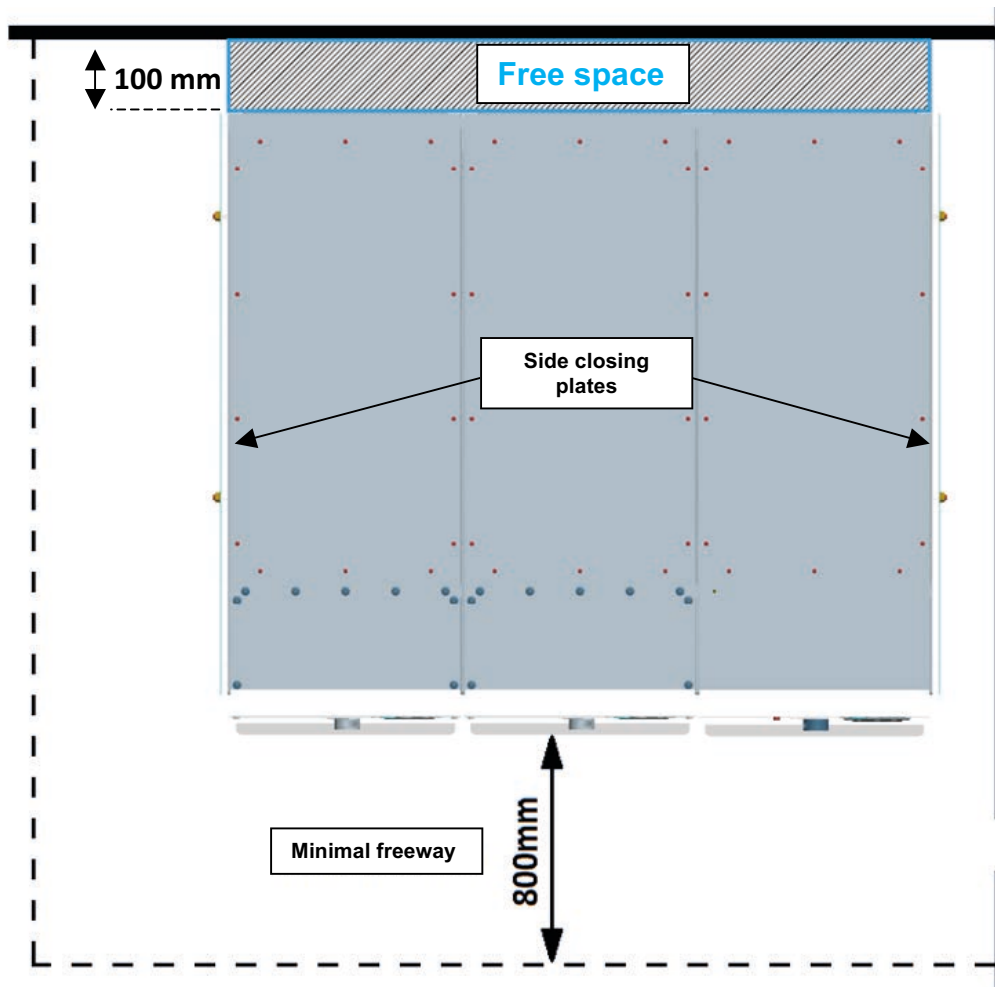

Figure 1: Elevation view of the installed cubicles
- Leave at least a free space between the rear wall of the cubicle and the wall of the installation area as described in figure 1 below. This implantation corresponds to the assembly of which the lateral closing plates are going until the rear of the installation area. In this way, the free space behind the cubicles is completely closed.